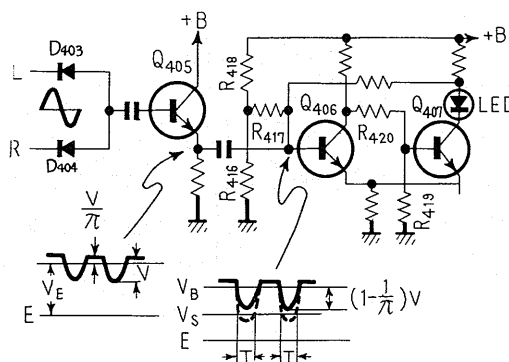

Fig. 3 Peak level indicator block
Peak Level Indicator (Fig. 3)
This circuit detects electrically when the signal level exceeds +4VU and causes the light emitting diode (LED) to light up. In Fig. 3, Q_{405} is an emitter follower which increases the input impedance of this circuit and Q_{406} and Q_{407} form a schmitt circuit. The base bias of Q_{406} is determined by R_{416} , R_{417} and R_{418} so that it becomes conducting when there is no input signal. The base bias of Q_{407} is applied from the collector of Q_{406} through R_{420} , R_{419} . Therefore, when Q_{406} is conducting (ON), Q_{407} is nonconducting (OFF), and vice versa. Assuming that the input signal is a sine wave, it is half-wave rectified by D_{403} (left channel)/ D_{404} (right channel) and the input waveform at the base of Q_{406} takes a shape of the base DC voltage (V_B) superimposed on the half-wave rectified signal. Since V_B has been established higher than the trigger voltage (V_S) of the Schmitt circuit, Q_{406} remains conducting when the amplitude of the input signal is small. When it becomes bigger, at times (T) the base voltage of Q_{406} is less than V_S . During these times Q_{406} is OFF and Q_{407} is ON, causing the LED to light.